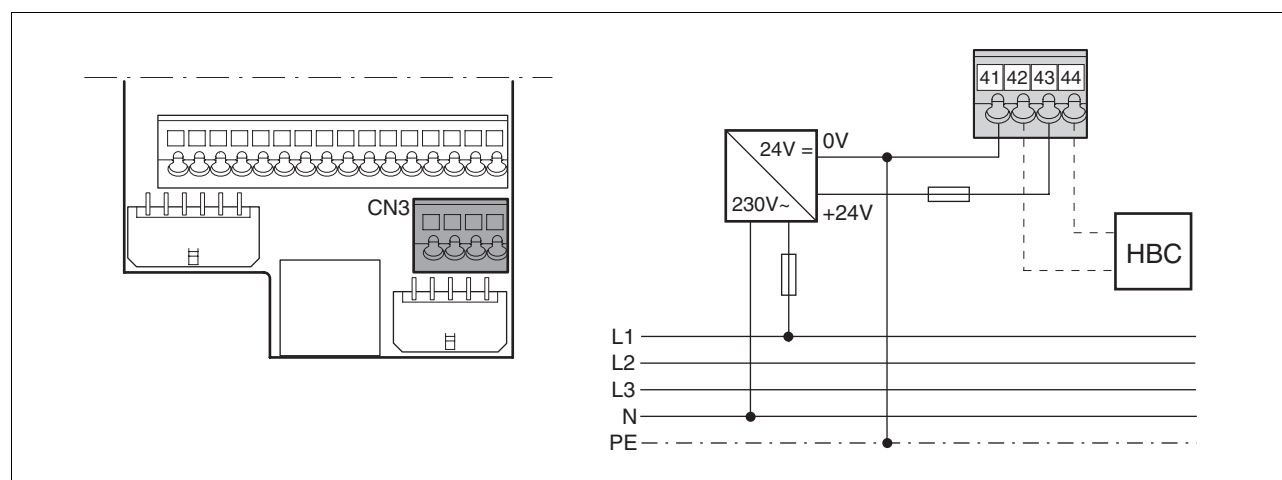

Figure 6.20 Controller supply voltage wiring diagram
- Terminal CN3, pin 42 and 44 (see Figure 6.20) can be used as a 0V/24V terminal for additional consumers. Note the maximum terminal current, see Technical Data, from page 3-1.